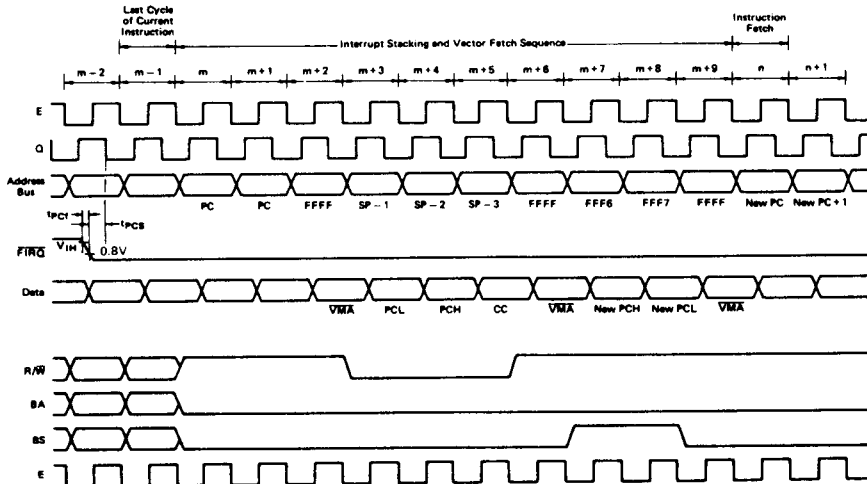

Figure 10  $\overline{\text{FIRQ}}$  Interrupt Timing
A "Low" level on this input pin will initiate a fast interrupt sequence provided its mask bit (F) in the CC is clear. This sequence has priority over the standard Interrupt Request ( $\overline{\text{IRQ}}$ ), and is fast in the sense that it stacks only the contents of the condition code register and the program counter. The interrupt service routine should clear the source of the interrupt before doing an RTI. See Fig. 10.